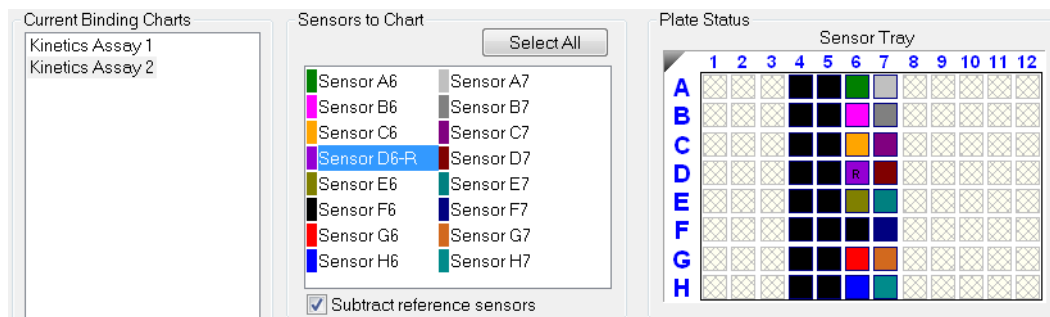

Figure 10-93: Subtract Reference Sensors check box in the Runtime Binding Chart
The selected biosensor will be shown with an **R** in the **Sensors to Chart** list and **Sensor Tray** (see Figure 10-93).
- Click the **Subtract reference sensors** check box (see Figure 10-93).